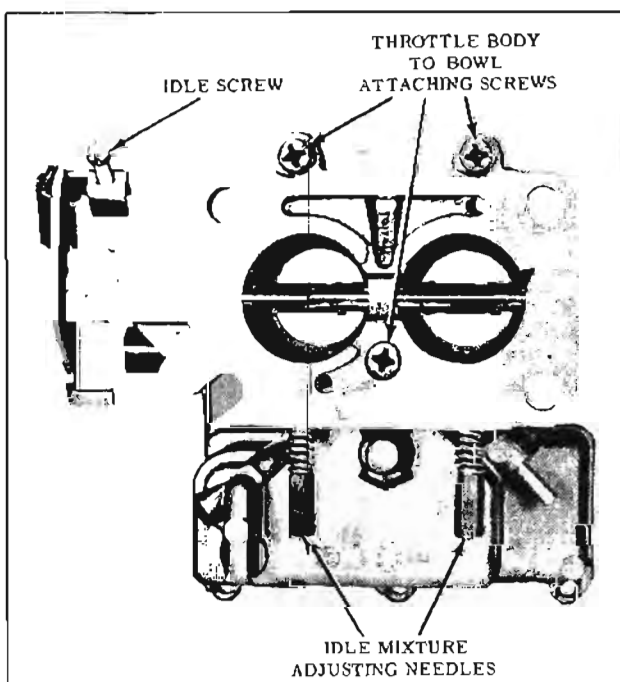

Fig. 9-155 Throttle Body
1. Invert float bowl and remove 3 throttle body attaching screws, then remove the throttle body and gasket, (Fig. 9-155)
- If removed, install the idle speed screw. (Fig. 9-155)